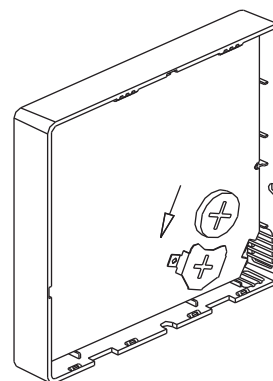

Fig. 4 — Installing Battery
8. Connect the control cable to the back of the controller, install the 3-V (CR2032) lithium battery (Fig. 4), and mount the controller back onto the mounting plate. See Fig. 4.